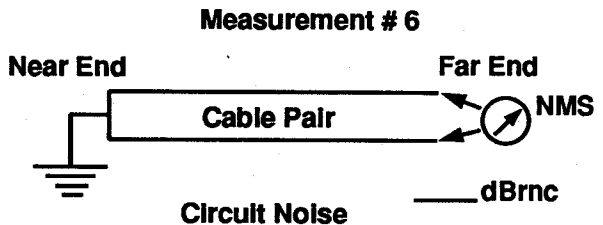

Figure 4: Measurement #6
(k) If both measurements #1 and #2 (far end) are less than 20 volts, the problem is most likely noise caused by power line harmonic interference. This is true for most circuits, but certainly not all of them. Using the pair selected for measurements #2 with the "near end" shorted and grounded but with the far end open, measure the circuit noise (CN) and the power influence (PI) at the far end. These are measurements #6 and #7 (See Figures 4 and 5).